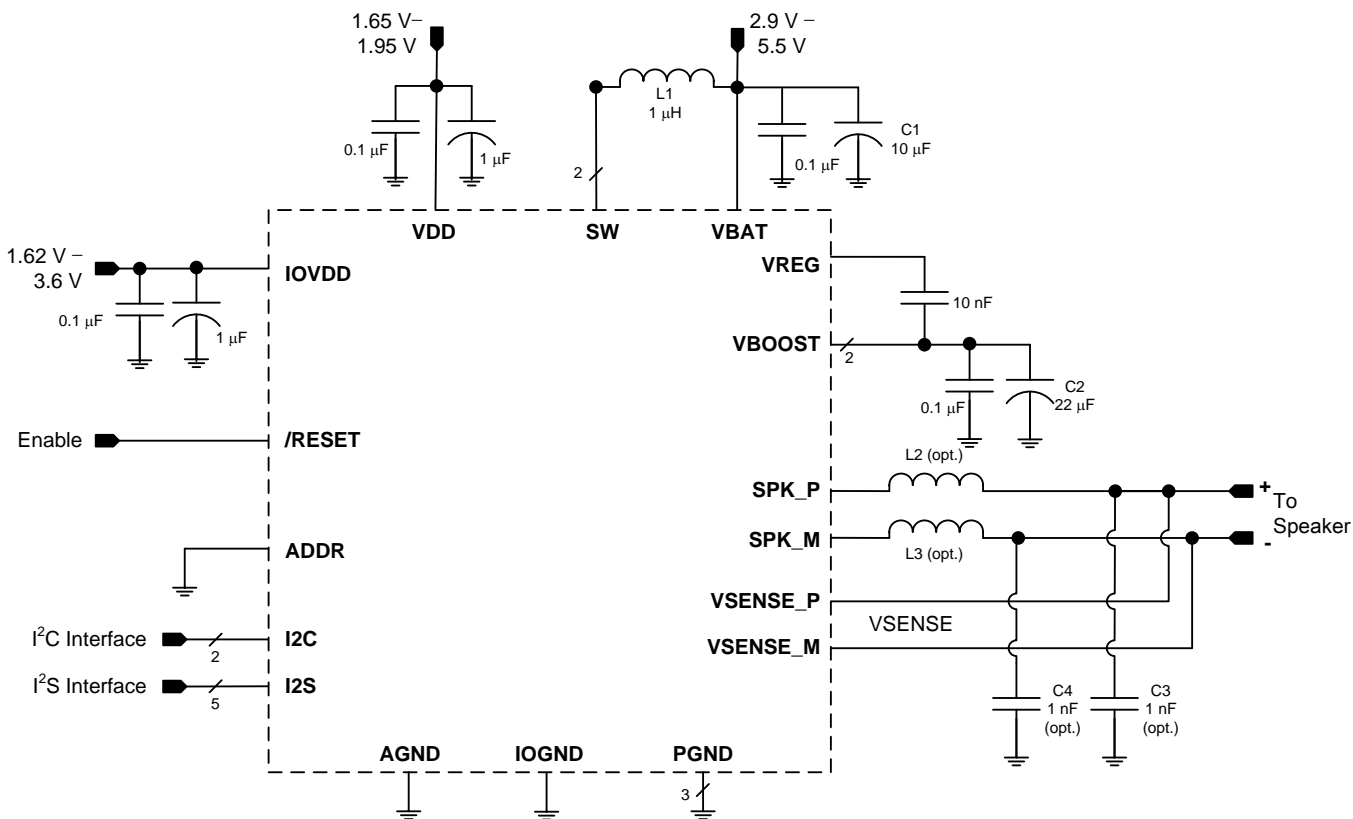

图 98. Typical Application - Digital Audio Input
The boost converter requires three passive devices that are labeled L1, C1 and C2 in 图 98 and whose specifications are provided in 表 101. These specifications are based on the design of the TAS2560 and are necessary to meet the performance targets of the device. In particular, L1 should not be allowed to enter in the current saturation region. The saturation current for L1 should be > I_{LIM} to deliver Class-D peak power.
The TAS2560 supports edge-rate control to minimize EMI, but the system designer may want to include passive devices on the Class-D output devices. These passive devices that are labeled L2, L3, C3 and C4 in 图 98 and their recommended specifications are provided in 表 101. If C3 and C4 are used, they must be placed after L2 and L3 respectively to maintain the stability of the output stage.
- Use supply decoupling capacitors as shown in 图 98 and described in Power Supplies.